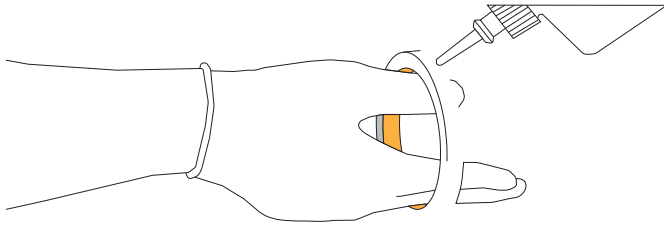

Figure 16
4. Add threadlocker medium strength (i.e. Loctite 243) around the outside of the shaft seal [Figure 16].